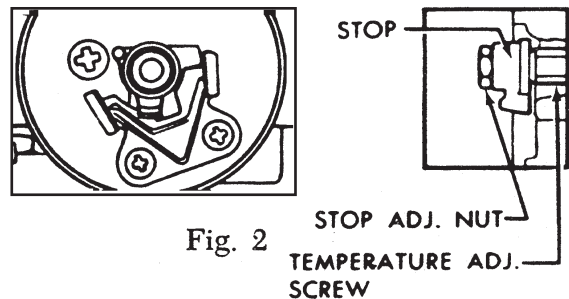

Fig. 2
7. Turn the stop slowly until the control snaps off. Holding the stop to prevent rotation, carefully loosen the stop adjustment nut (see figure 2).